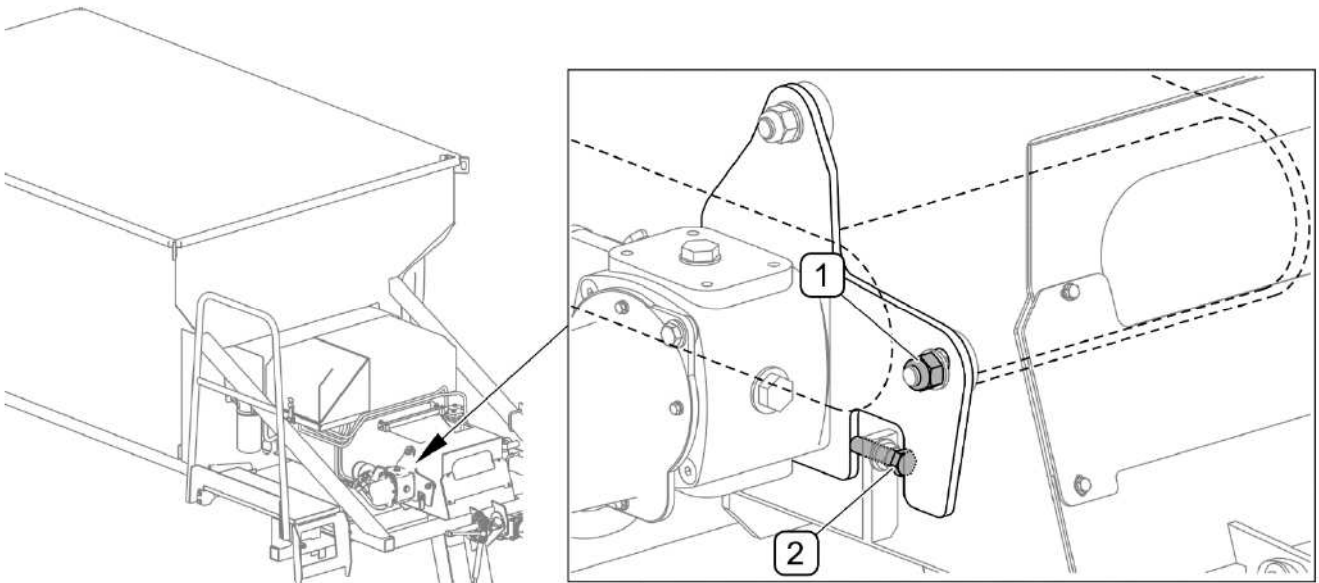

FIG. 5.9 Adjustment of drive roller
(1) - locking nut; (2) - adjusting screw
If the conveyor belt is shifted sideways to the edge of the conveyor drive roller (FIG. 5.9), make proper adjustment of the roller. The adjustment is made only on one side of the conveyor using bolt (2) by changing the position of the roller drive transmission bracket. To do this, connect the machine to the mains, activate "UNLOADING" function in "COUNTERS" menu on the control panel. Turn on electric motor using switch on the drive wheel column. A detailed description can be found in section 4.9 UNLOADING Loosen nut (1) and position the belt in the middle of the roller by means of adjustment bolt (2). During the adjustment, make one turn of bolt (2) and wait for some time to see the effect of the adjustment. Repeat the activity until moving conveyor belt is positioned in the middle of the conveyor roller. After adjustment, disengage conveyor drive, tighten nut (1) and switch off "UNLOADING" function on the control panel.